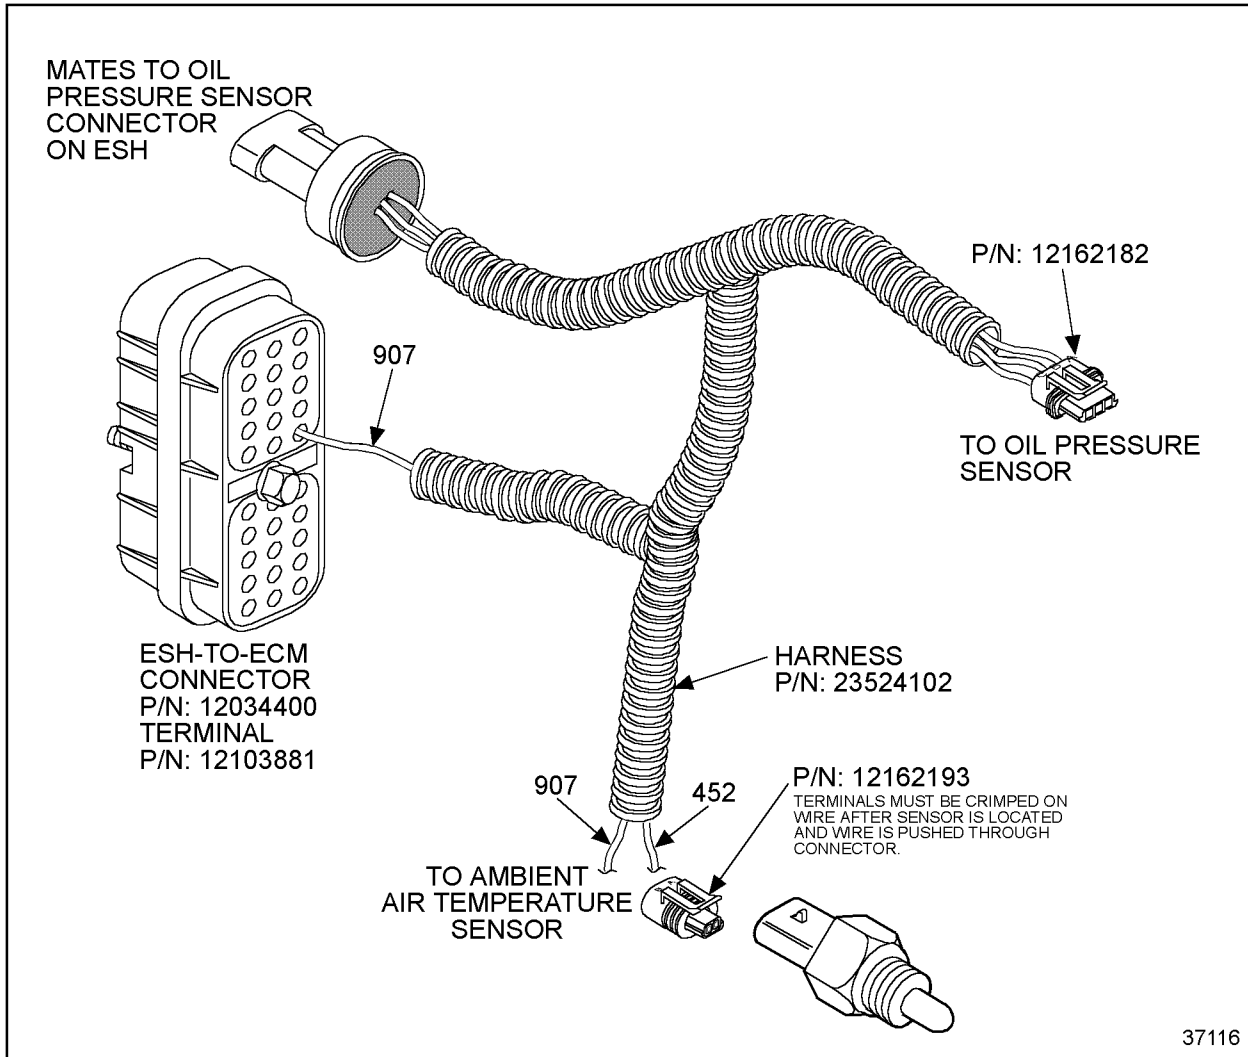

Figure 3-48
2. Unplug the connector from the Turbo Boost Pressure Sensor (TBS) located on the intake manifold. See Figure 3-48.
4. Plug the TBS connector that you unplugged in go to step 2, into the 3-pin connector (TBS connector mate) on the Ambient ATS harness. see Figure 3-48.
5. Route the harness along the engine sensor harness towards the ECM 30-pin connector. see Figure 3-48.